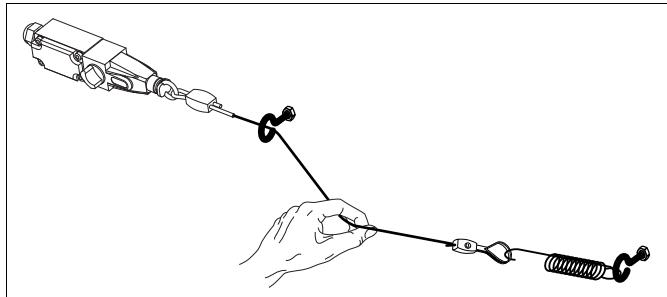
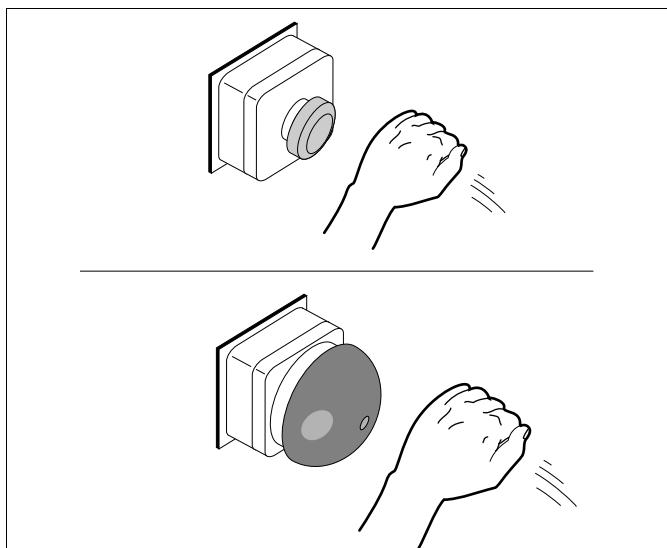
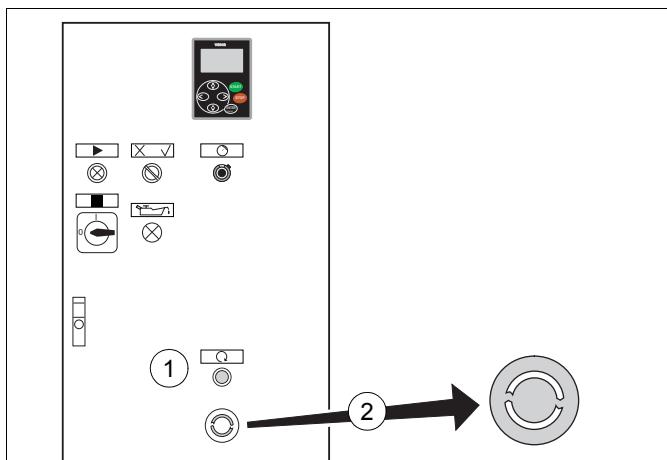

fig. 6 Emergency stop cord
fig. 7 Emergency stop cord
fig. 8 Emergency stop button on the Control Panel
See fig. 6, fig. 7 and fig. 8.
3. Press reset button **1** to reset the emergency stop error. See fig. 8.